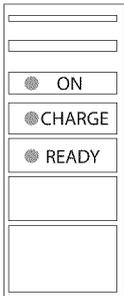

Figure 22
5. Ensure that status indicator LEDs are lit on charger (see figure 22). If LEDs do not light correctly refer to troubleshooting chart (see *BATTERY CHARGING TROUBLESHOOTING* on page 25).